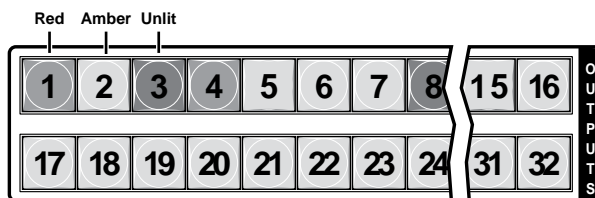

Figure 3-23 — Select video and audio
3. To select both video and audio for viewing, if necessary, press and release the Video button and the Audio button (figure 3-23).